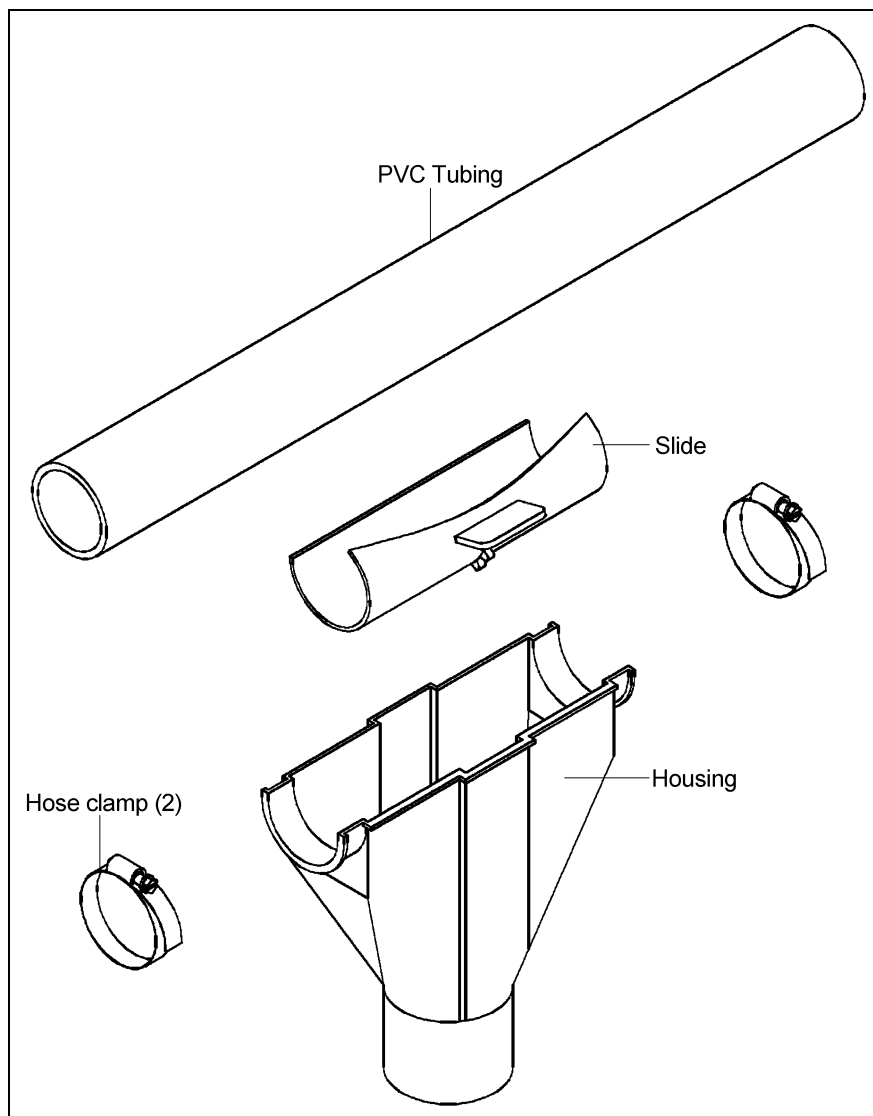

Figure 50 Drop Kit Installation
1. Snap the slide around the tube over the outlet hole. *(See Figure 50.)*
2. Fasten the housing to the tube using two (2) hose clamps. Make sure the outlet hole is in the middle of the housing.